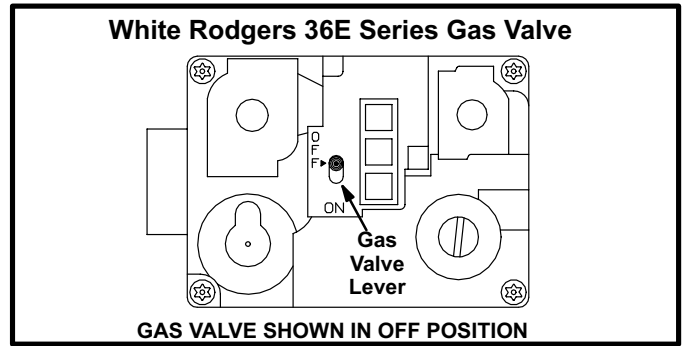
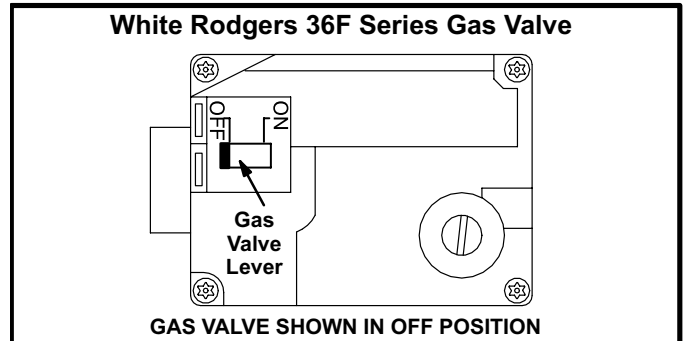

FIGURE 3
FIGURE 4
Operating the Gas Valve (Figures 3, 4 and 5)
- 6 - *White Rodgers 36E/36F Gas Valve* - Switch gas valve lever to **OFF**. See figure 3 for the White Rodgers 36E valve and figure 4 for the White Rodgers 36F valve.
- 8 - *White Rodgers 36E/36F Gas Valve* - Switch gas valve lever to **ON**. See figure 3 for the White Rodgers 36E valve and figure 4 for the White Rodgers 36F valve.